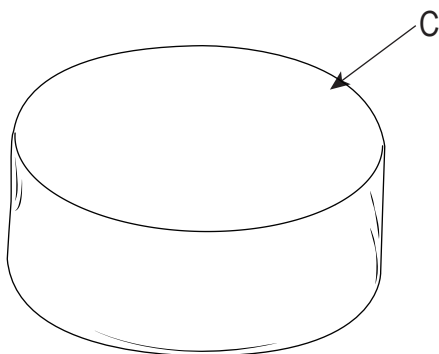

Figure 4
4. Cover the fire pit with the outdoor weather cover (C) when not in use to protect it from the elements or when fire pit is cool COMPLETELY after the use, (See Figure 4).